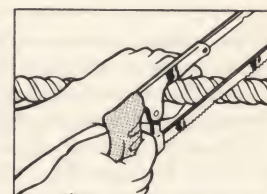

FIG. 29
**CUTTING ARMORED CABLE.** A fine-tooth hacksaw is used to remove the spiral wound steel armor. Fig. 29 shows how saw is held at right angles to the strip of armor. Carefully cut through one section of the armor, making certain that saw goes through armor but does *not* cut the insulation of the wires. Next, grasp cable with one hand on each side of cut. Give it a twist and remove the short end. Expose about 8 inches of insulated wire for connections.